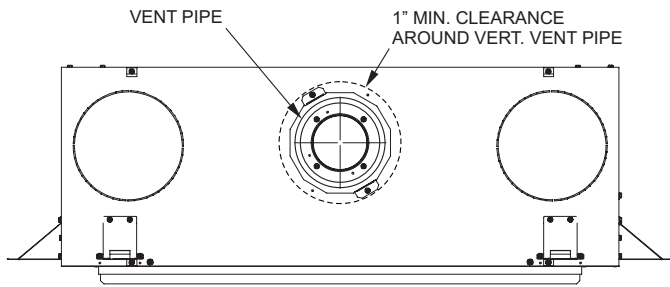

Figure 11
**NOTICE:** Maintain one inch of clearance around vertical vent pipe. See Figure 11.